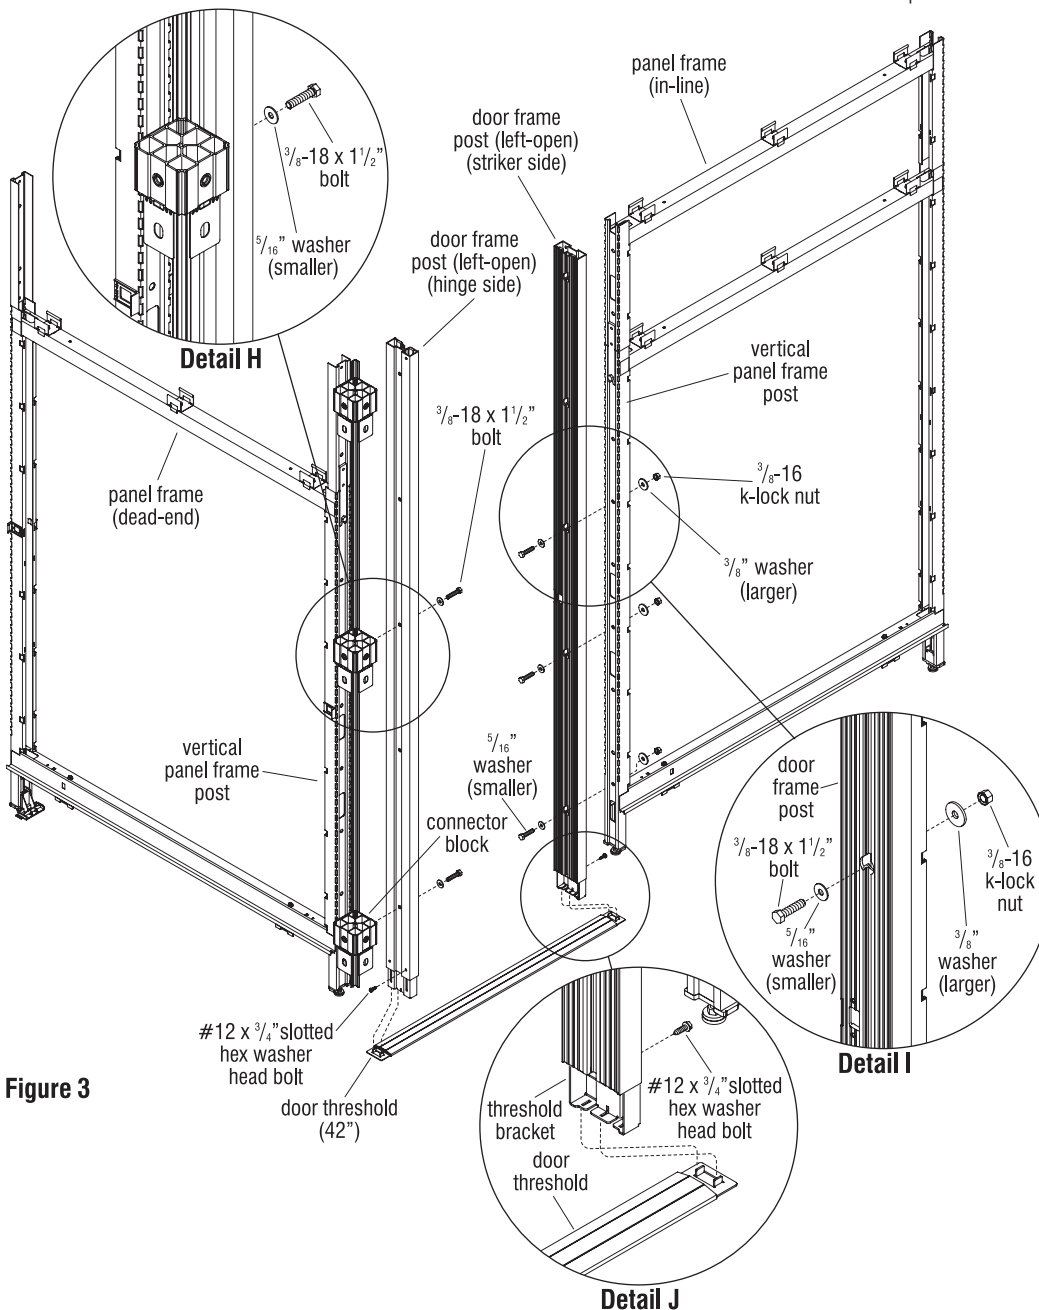

Figure 3
6. Begin preparation to install the door posts to panel frame assemblies by first placing a $\frac{5}{16}$ " (smaller size) washer onto each $\frac{3}{8}$ -18 x $1\frac{1}{2}$ " bolt as illustrated. The smaller washers fit through the inside access hole. All bolts install from inside the door frame (Figure 3, Details H & I).
7. At the door frame post that attaches to the connector blocks, carefully set the appropriate door frame post into position. Insert bolts with washers through the vertical door frame post and into the two lower connector blocks, then tighten (Figure 3 & Detail I).
8. At the door frame post which attaches to a panel frame, carefully set the appropriate door frame post into position. Insert bolts with small washers through the inside of the door frame post and through the vertical panel frame post, then place a $\frac{3}{8}$ " (larger size) washer onto each exposed bolt end and secure using $\frac{3}{8}$ -16 k-lock nuts as illustrated (Figure 3 & Detail I).
9. Position the door threshold as illustrated, onto the floor and outside of the door frame area. At the hinge side door frame post, identify the side of the post where the hinges mount to. This side of the door frame post is the "closed-door side". The door threshold must be installed under both door posts, and be off-center to the closed-door side. With the door threshold on the floor near the door posts, use a screwdriver or prybar to assist and carefully lift up each threshold bracket and slide both ends of the door threshold under the door posts such that the door threshold tabs nest into the slots, off-center and under the closed-door side of both door frame posts (Detail J). Then allow each threshold bracket to slide down, so the closed-door side slots of both threshold brackets nest into the tabs on the door threshold at each side (Figure 3 & Detail J).
10. After both threshold brackets have dropped down and are nested over the tabs on each end, insert and tighten a #12 x $\frac{3}{4}$ " slotted hex washer head thread-cutting screw into the hole on backside of each vertical door frame post to lock the threshold in place (Figure 3 & Detail J).